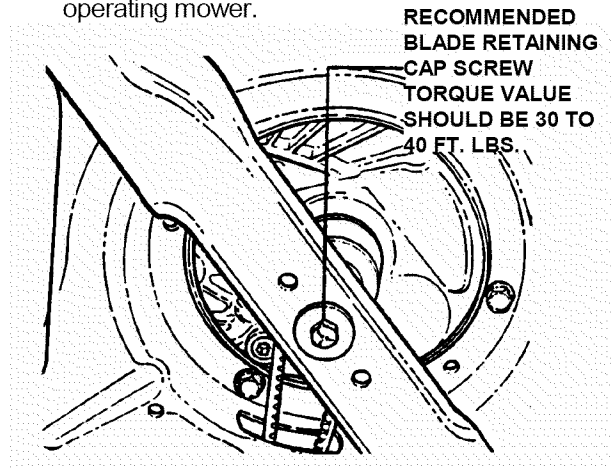

FIGURE 3.4
3. Check torque of blade retaining cap screw. Recommended torque should be 30 to 40 ft. lbs. See Figure 3.4.